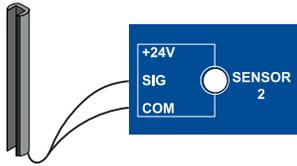

Figure 37. Sensor Connection
4. Install the wires into input Sensor #1, Sensor #2, or Input #1, or #2 (not #3) on the SmartCNX controller (Figure 37). Make sure to connect to a Sensor COM port for switched common for monitoring purposes.